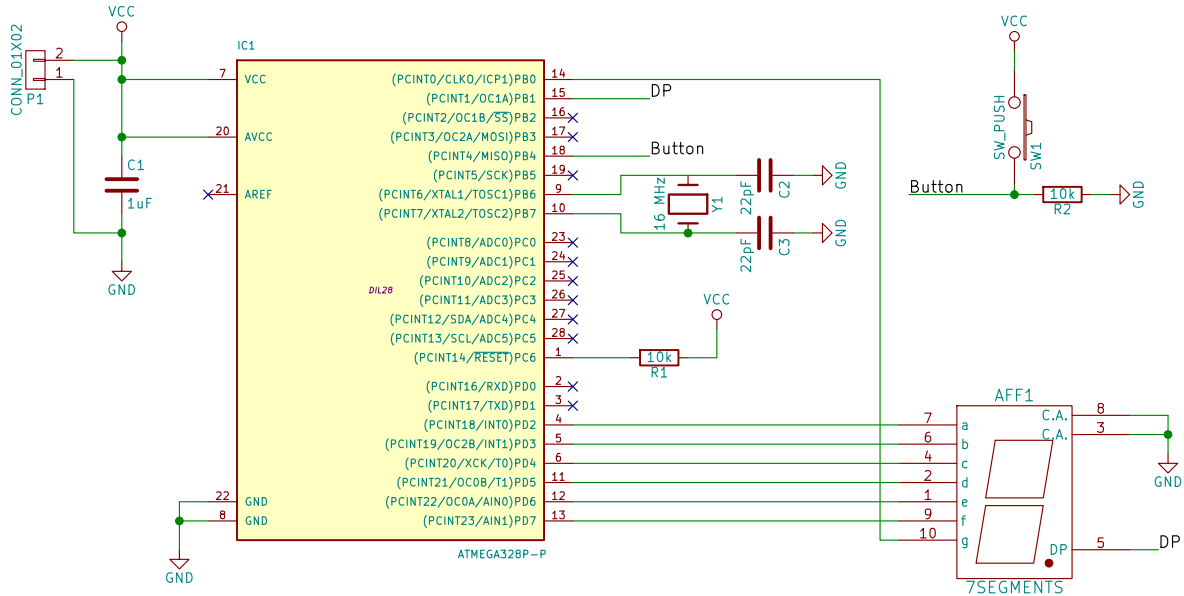

Figure 7: Completed schematic drawing of Example 1 circuit.
- f) Repeat steps a–e for the connection between ATmega328P's PB_4 pin and the push button. Refer to the final schematic (Fig. 7) for how it looks.
11. The final schematic should look like that in Fig. 7.